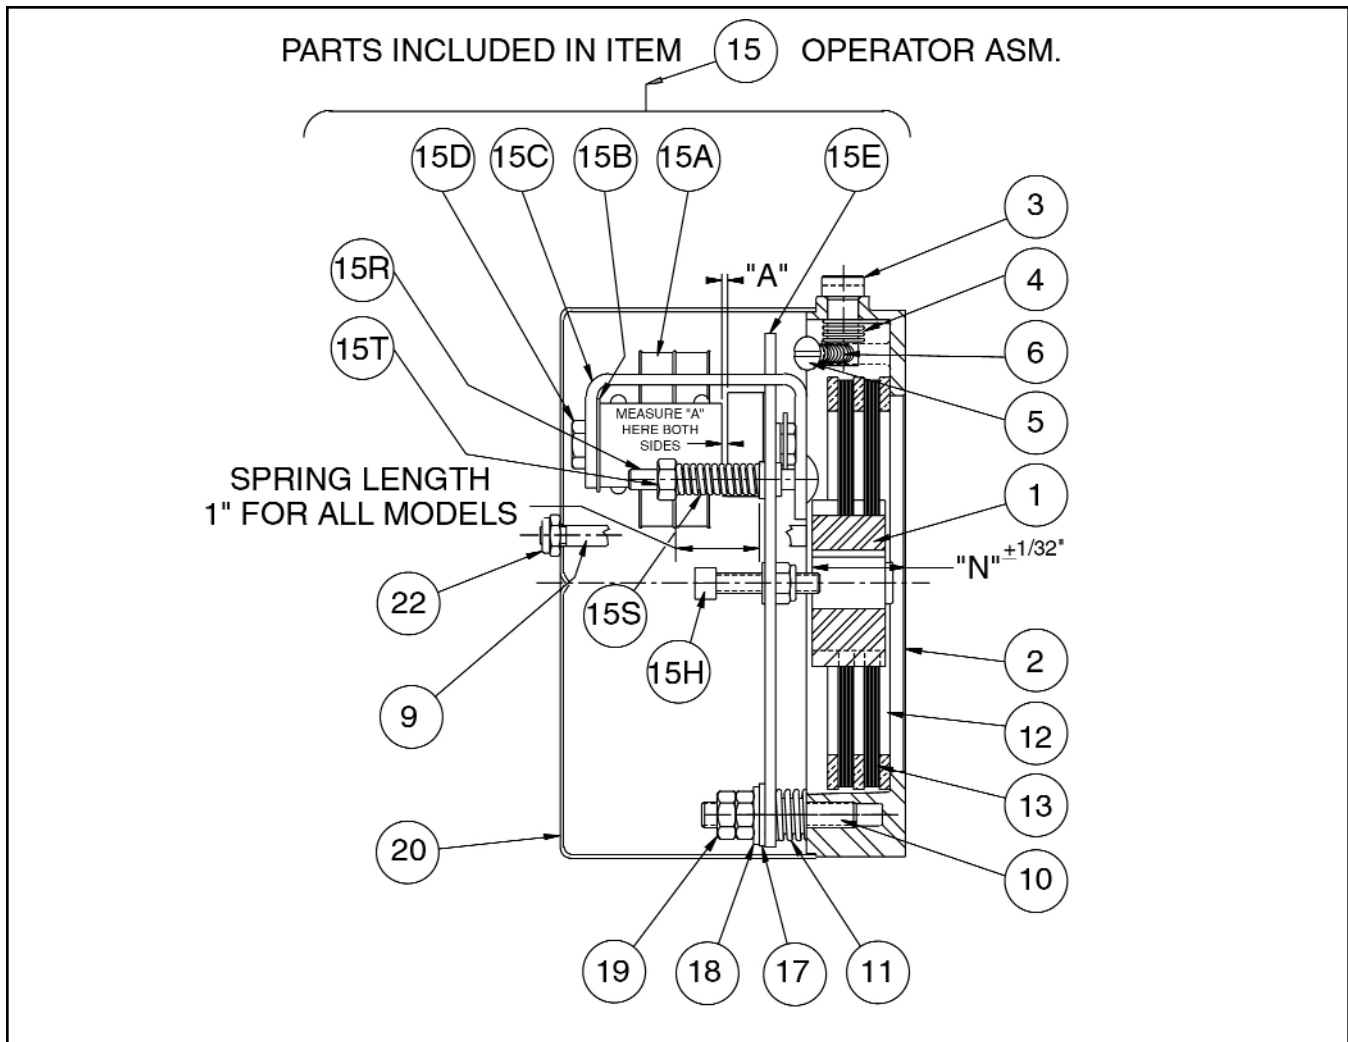
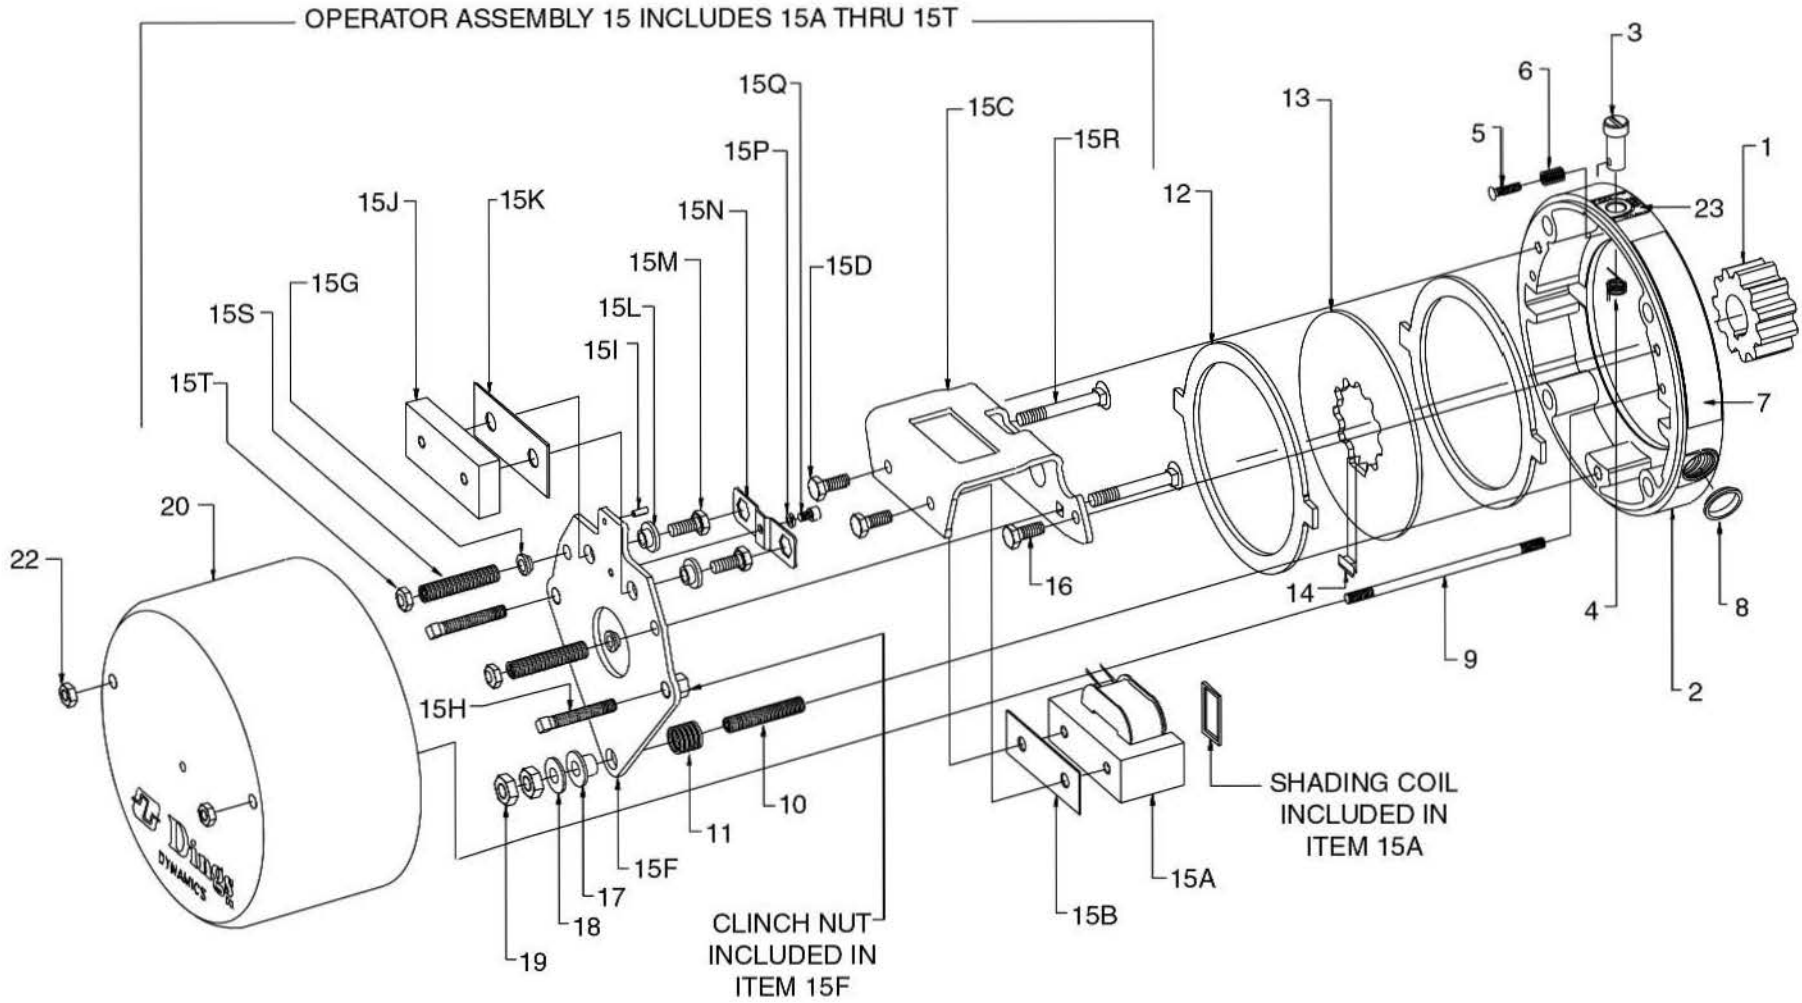

Figure 3
Figure 9
Numbers in parentheses refer to parts illustrated in Figs. 3, 5, 6 and 9.
Before air gap "A" reaches .100", adjustment is required. Any delay in adjusting the magnet air gap will result in eventual loss of torque. Refer to Fig. 3.
The magnetic disc brake is factory set for rated static torque. The brake can be adjusted to reduce torque which increases stopping time. Do not attempt to adjust brake for higher torque, as this will cause premature coil burnout. (Refer to Fig. 3)
5. **Re-assembly of operator assembly (15)**
Refer to Figs. 3 and 9. (Capscrew (16) is shown in Fig. 9 and not Fig. 3)
4. Reassemble to magnet bracket (15C) using items (15R), (15S) and (15T). Reassemble operator assembly to brake bracket. Set magnet air gap "A" and set torque springs (15S) to 1" as shown in Fig. 3.